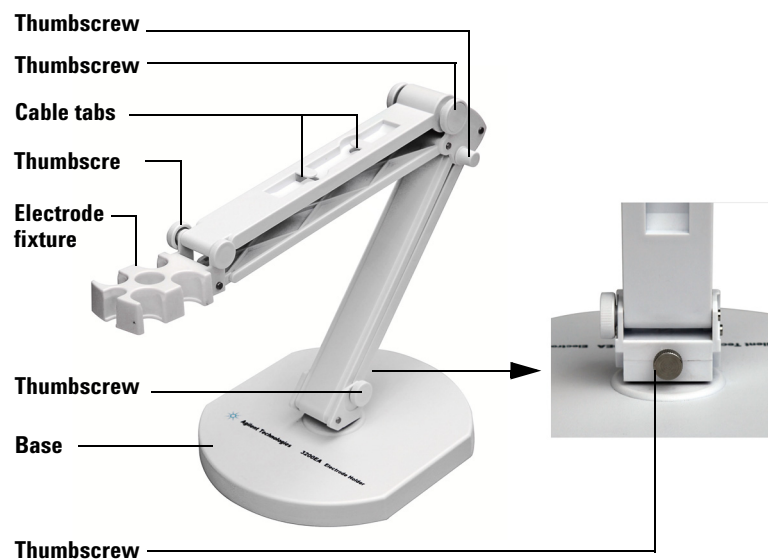

Figure 1 The electrode holder
- 1 Place the electrode holder near the meter and move the arm into position. Use the thumbscrews shown in Figure 1 to secure the arm in place.
- 2 Clip the conductivity probe and ATC probe into the electrode fixture shown in Figure 1.